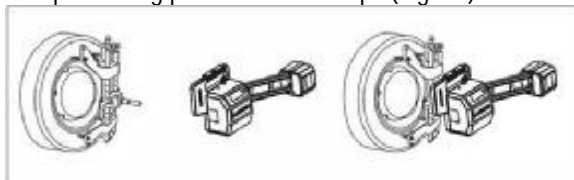

Fig.4.1
- V. Install the probe rods on the corresponding positioning pins of wheel clamps (Fig.4.1).